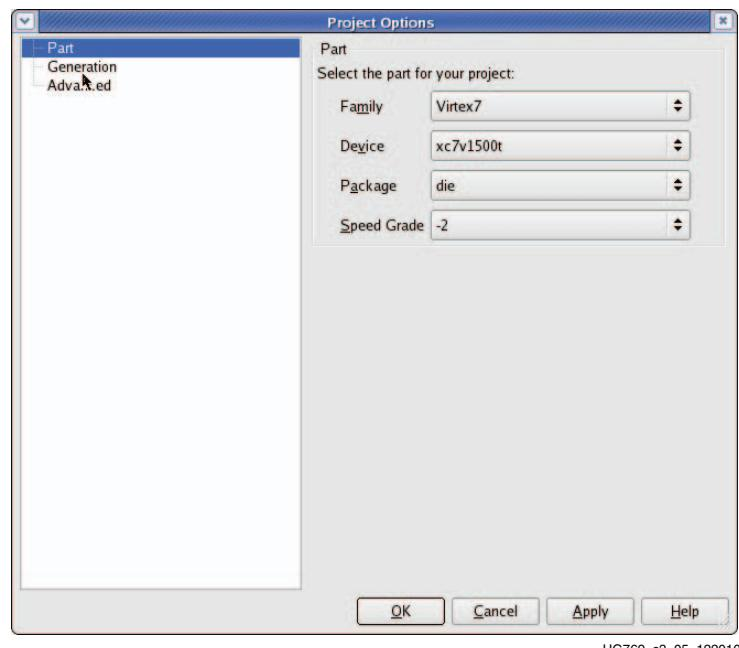

Figure 3-5: Target Architecture Setting
4. Select an appropriate package from the Package list. This example uses the XC7V1500T device (see Figure 3-5).